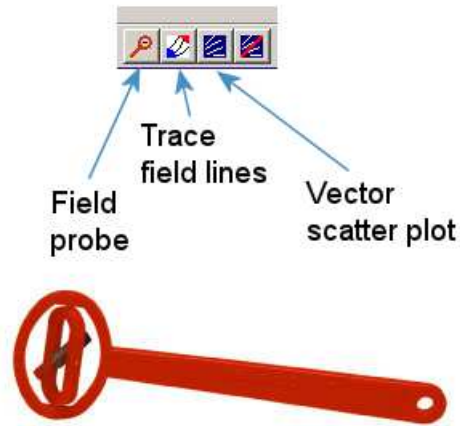

Figure 50: Tools to display vector information in the slice plot menu.
**MagView** has useful tools to display the direction of the vector quantities **B** and **H** in slice plots. Figure 50 shows the corresponding entries on the toolbar.
This feature was inspired by the familiar Magnaprobe illustrated in Fig. 50. When you click on the tool and move the cursor into the slice-plot area, it changes to a semi-transparent probe that rotates about a pivot point to show the direction of the chosen field quantity. The probe functions in all plot styles and may be combined with field-line traces and scatter plots. The status bar shows the coordinates and  $|\mathbf{B}|$  at the pivot point.